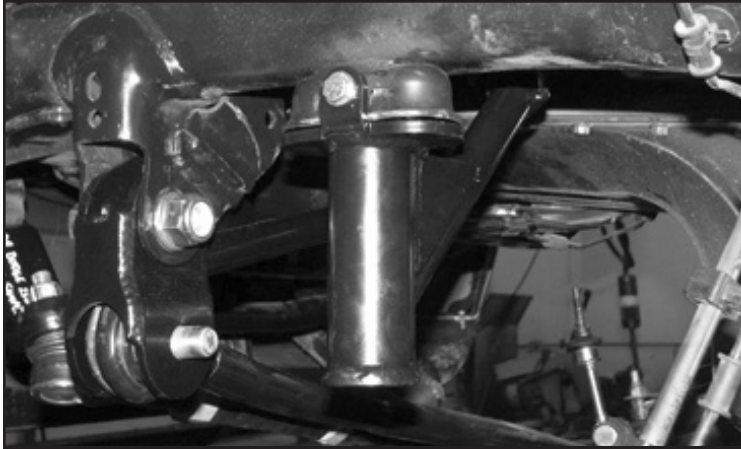

FIGURE 20 - STEP 27
27. Locate a 5/16"-18 x 2-1/2" bolt, nut and washers. Using this bolt, secure the bump stop to the factory bump stop mount and torque to 29 ft-lbs. **SEE FIGURE 20**